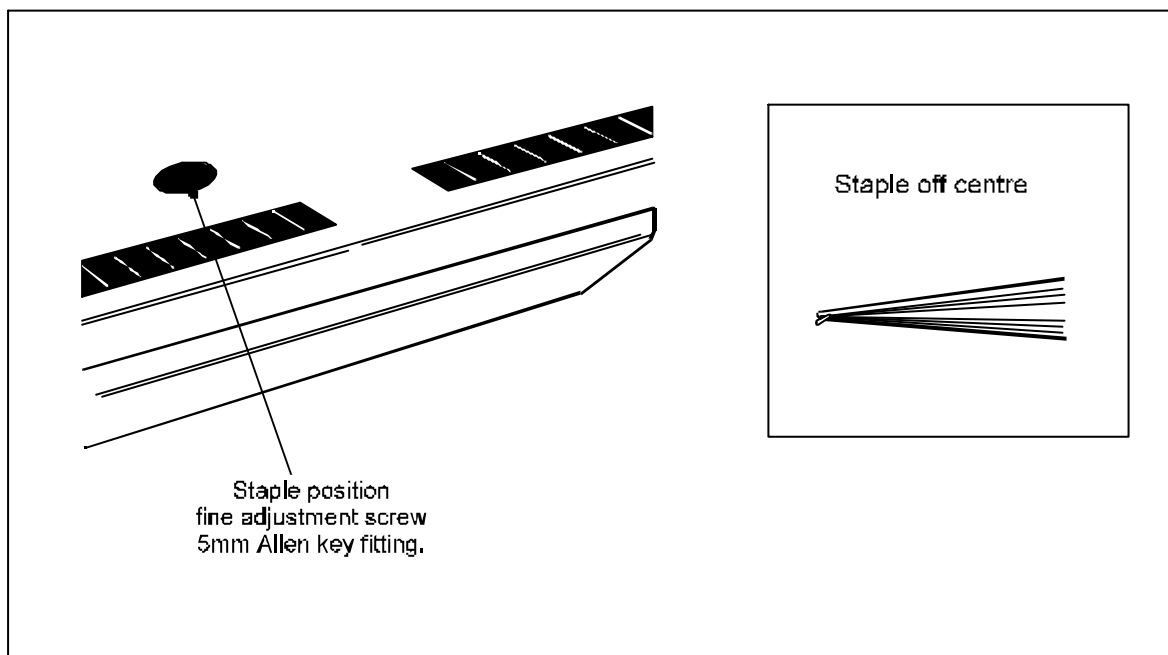

Figure 9 - Staple position fine adjustment
7. Staple Position Fine Adjustment. If, after correctly setting the fold stop adjustment wheel, it is found that the staples are not exactly on the fold line, this can be corrected by turning the staple position fine adjustment screw, figure 9.